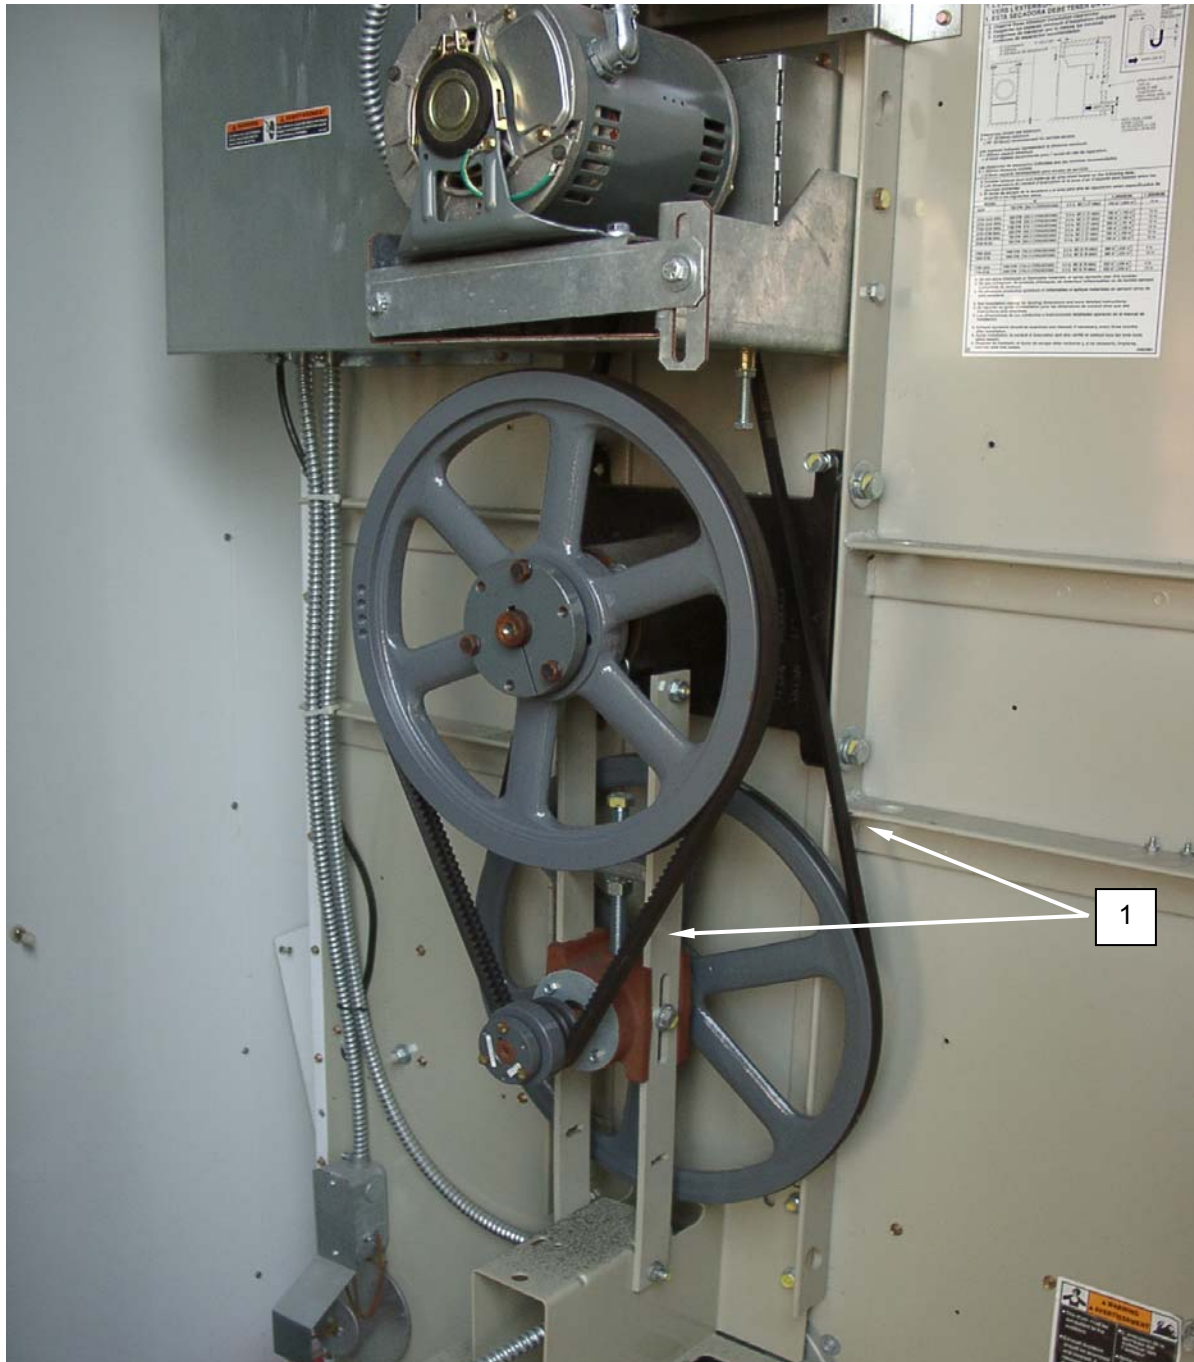

Figure 1. Inspect the Dryer Drive Belts.
3. Inspect each belt (**Figure 1, Item 1**) for approximately ½ -inch deflection.
4. Inspect each belt (**Figure 1, Item 1**) for glazing, cuts, and shredding.
5. Adjust belts (**Figure 1, Item 1**) with improper deflection.
6. Replace belts (**Figure 1, Item 1**) with physical damage or which cannot be adjusted.